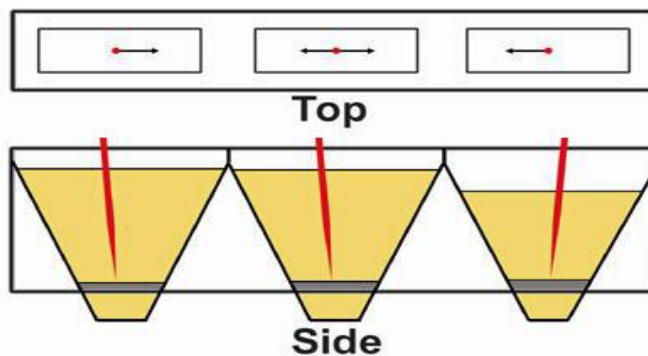

Figure 5 – Lift-top Barges
3. Lift-top and roll-top barges draw the first probe 4 feet from the stern end of the barge and 7 feet from the side. Take remaining probes at 15-foot intervals to the bow end of the barge. The last probe is taken 4 feet from the box end and 7 feet from the side (Fig. 5)